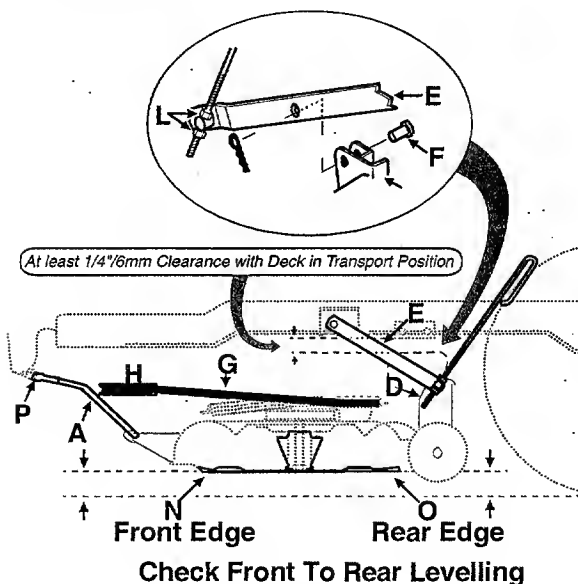
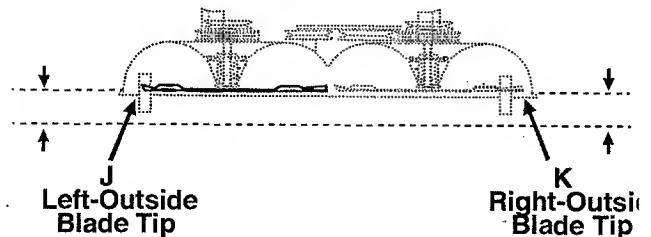

Figure 3
Figure 4
4. Set the clearance between the lift bracket (D, Figure 3) and the frame/frame stop to 1/4" or 6mm. Adjust the position of nuts (L) to set the clearance.
- Rotate the left blade so it is aligned side-to-side with the tractor (Fig. 4). Measure the distance from the outside blade tip (J) to the ground. Rotate the right blade so it is aligned side-to-side with the tractor. Measure the distance from the outside blade tip (K) to the ground. These distances should be equal to each other and to the measurements taken in step 4.
- Adjust the position of the nuts (L, Fig. 4) to raise or lower each lift link until the unit is level. readjust the lift rods (A) needed.
- When level, tighten the nuts (L) firmly against the swivel block.
- Turn the blades so that one is aligned front to rear with the tractor. Measure the distance from the front edge of the blade (N, Fig. 3) to the ground. Measure the distance from the rear edge of the blade (O) to the ground. Both distances should be equal.
- To level, adjust the length of the front lift rods (A, Fig. 3) by turning the rod end (P) on each front lift rod, as required.